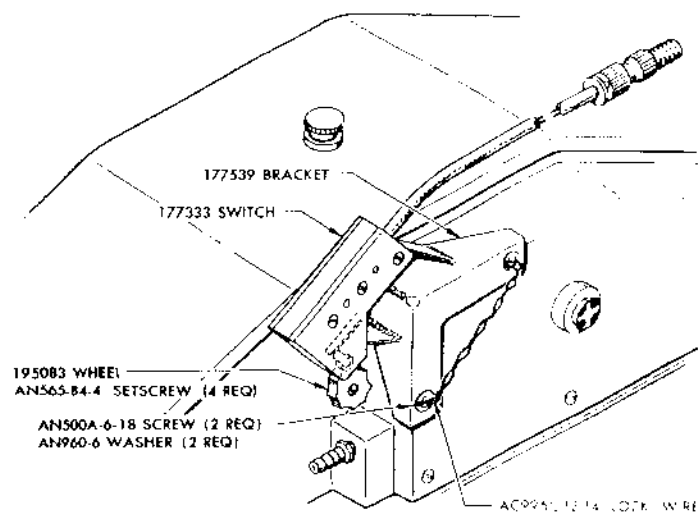

Figure 263 — A-5A and A-7 Camera Magazine Modification
d. MODIFICATION OF A-5A AND A-7 MAGAZINES. (See figure 263.)—Types A-5A (modified), A-8, and A-9 camera magazines contain a blinker light switch as an integral part. Types A-5A (unmodified) and A-7 must be changed to add the blinker light switch. Parts